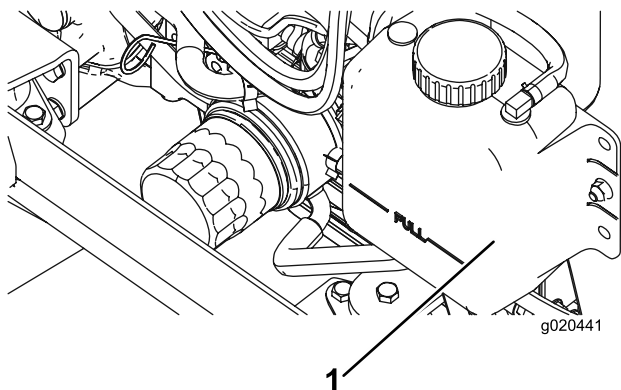

Figure 108
2. Carefully remove the radiator cap and expansion-tank cap (Figure 108).